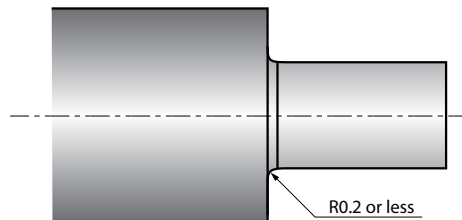

Fig. 1 Example of a specified corner-R in the drawing
If a minus tolerance is specified for the corner-R(RE) as shown in the Fig. 1, using an insert with corner-R(RE)=0.2 mm may result in larger radius than specified. Use an insert the corner of which R(RE) has a minus tolerance.